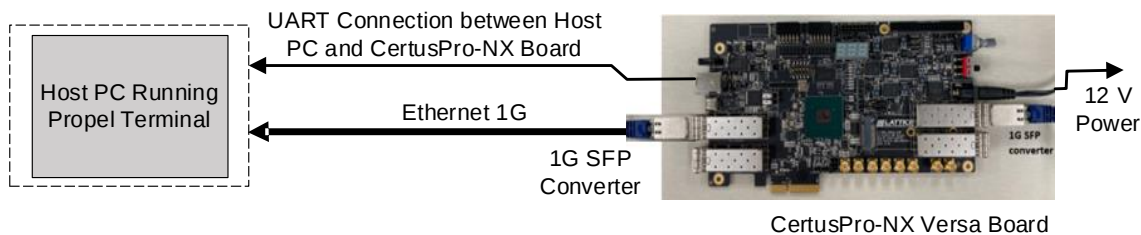

Figure 2.1. Hardware Setup for GSRD
Figure 2.1 shows the hardware connections.
1. Connect the hardware as shown in Figure 2.1.